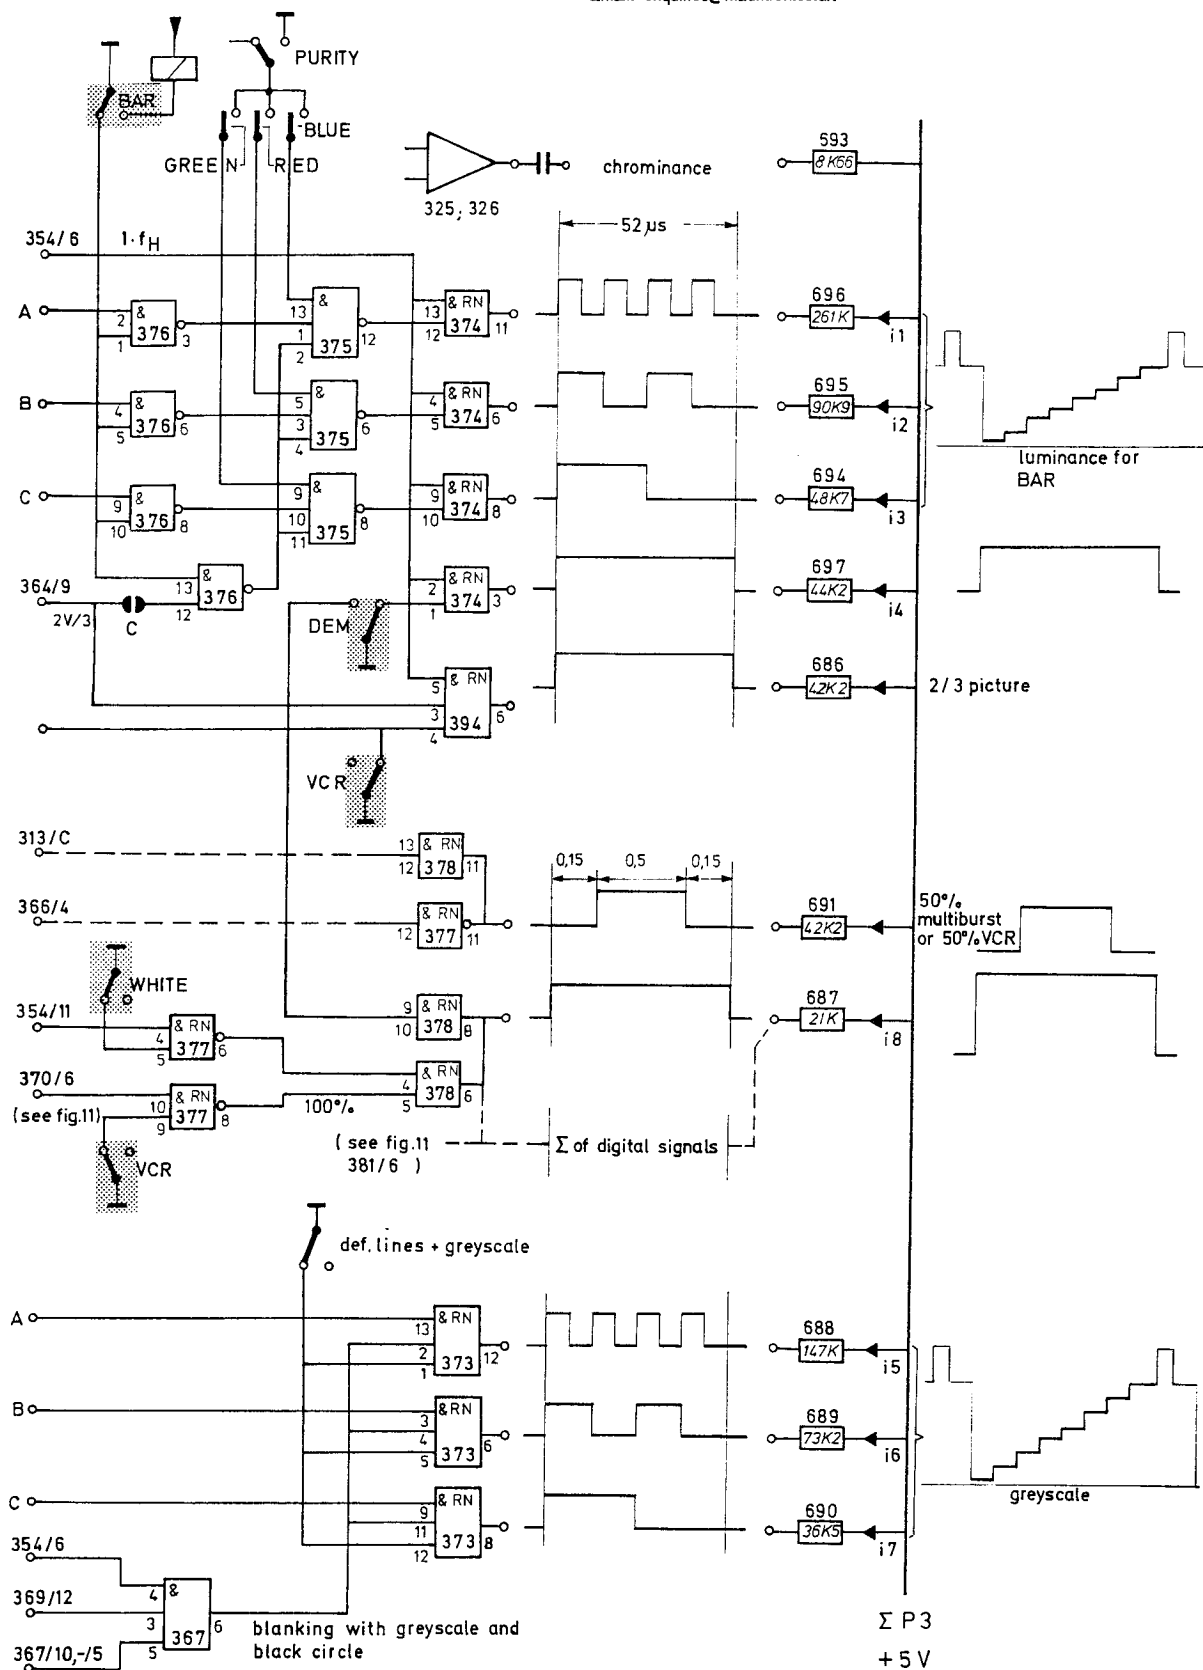

Fig. 13 Greyscale generation
- 2.2.4.3. **The graduated signals for the greyscale** are formed by progressive subtraction of current  $i_5$ ,  $i_6$ , and  $i_7$ , see bottom of fig. 13, defined by resistors 688 to 690. During the active line time the resistors are switched to ground by the 8-4-2 coded signals A, B and C.
The luminance matrix 694-696, fig. 13, generates the luminance of the 3 primary and 3 complementary colours and the colour bar luminance.
The luminance of the whole DEM pattern is 50 % white, applied to the summing junction  $\Sigma P3$  via the AND-gate 374/3 (see fig. 13). In the first bar of the DEM pattern the component  $(G-Y) = 0$ . The second bar has no colour information at all. The third bar consists of a  $(R-Y)$  component only (but NTSC-coded) and the fourth bar consists only of the  $(B-Y)$  component (but PAL-coded).